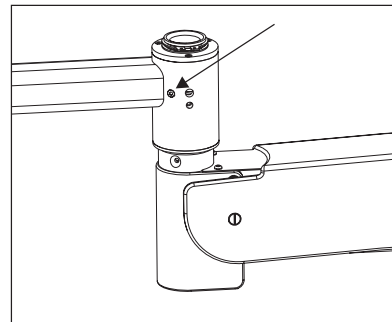

Fig. 5
- 7.6 Firmly tight the safety lock screw provided on the suspension arm by using allen wrench 3mm. See fig 5.